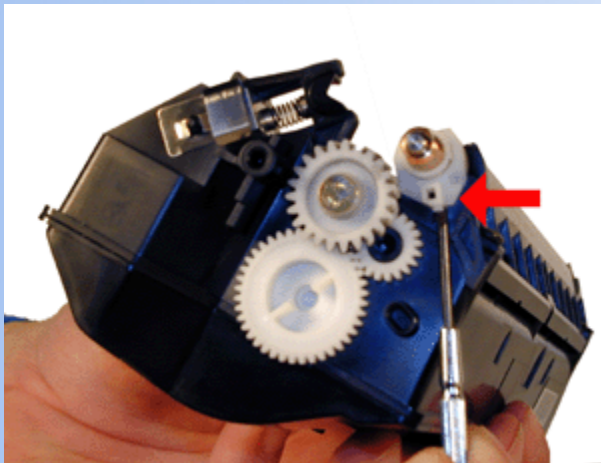

FIGURE 11
11. Remove the gear from the magnetic roller. On the gear side of the roller, pry up the flat part of the white bushing. Remove the magnetic roller. See Figure 11